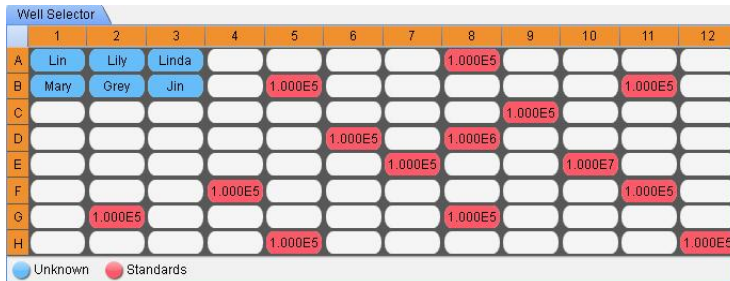

Fig 4- 4
- ▶ **Change information to display on the well plate:** As a default, the project name is displayed on the well plate. Users can change the information display on the well plate. Right-click the Well Selector, select the menu of **Well Display**, and you can choose to display the project name, patient name (Fig 4- 4), label,tube name or sample name. Users can also open the menu of **Preferences** and change the **Well Display** in the **Well Selector Options**.